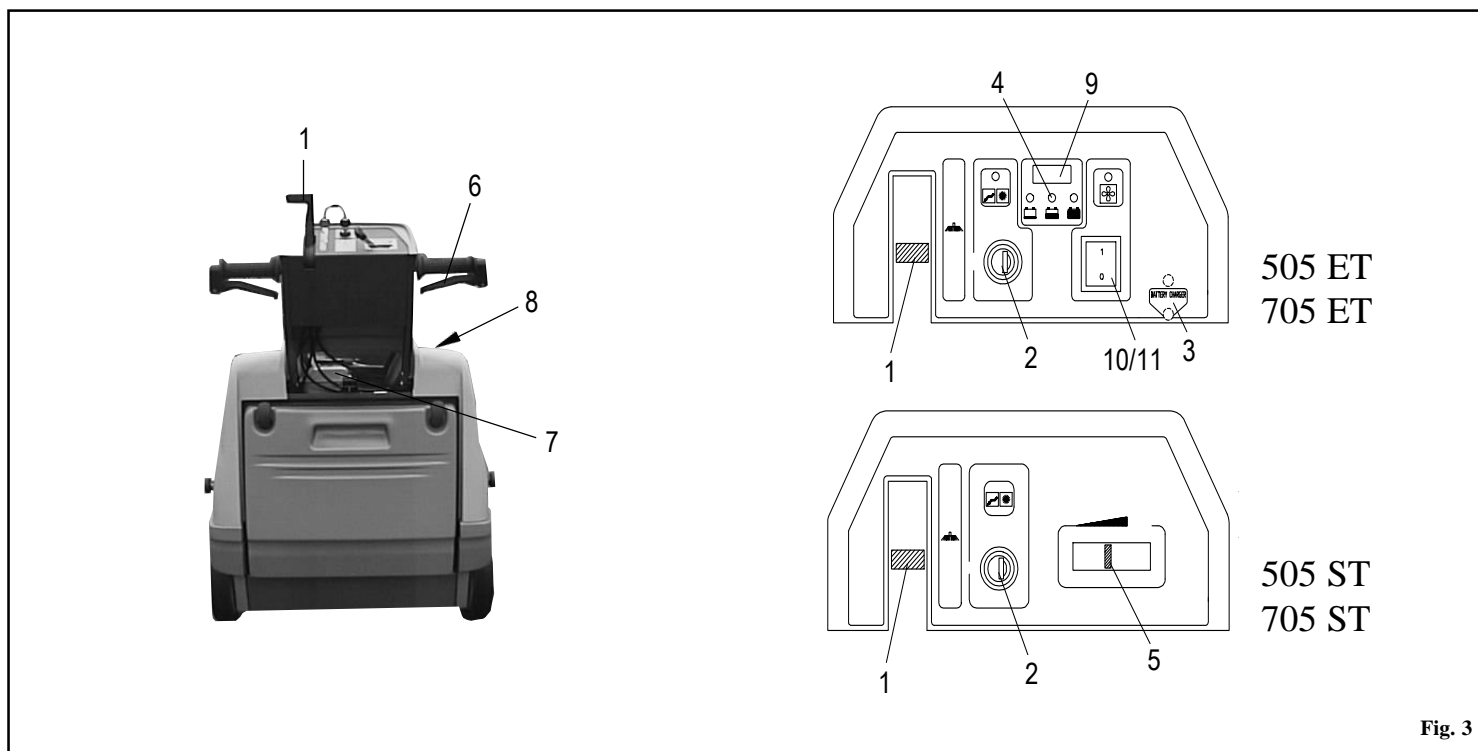

Fig. 3
- Switch the brush lift lever **pos. 1 Fig. 3**, to **OFF**.
you will not be able to operate the key **pos. 2 Fig. 3** on the dashboard. For more detailed information on the engine consult the relevant manual.
- Make sure the side brush **pos. 1 Fig. 3** is **OFF**.
- Turn the switch **pos. 2 Fig. 3 ON**. Wait 10 seconds before the machine sets off.
- Before the machine sets working, check the indicator **pos. 4 Fig. 3**, to assess whether the battery is fully charged. If it is not, proceed to recharge it.
- Pull the traction lever **pos. 6 Fig. 3**, to start cleaning.
If necessary, operate lever **pos. 1 Fig. 3**, by turning it **ON**, to start the side brush. If you have been using the side brush, at the end of your work remember to turn it **OFF**. Switch off the machine and remove the key from the control panel.
- Make sure the side brush **pos. 1 Fig. 3**, is **OFF**.
- Switch accelerator lever **pos. 5 Fig. 3**, to **START**.
- Place the key **pos. 2 Fig. 3** on **ON** position.
- Act on the accelerator **pos. 5 Fig. 3**, to reach the required speed.
- At the end of your work, if you have been using the side brush **pos. 1 Fig. 3** turn it **OFF**. Turn the accelerator lever to **START** and turn off the machine with the key **pos. 2 Fig. 3**. Close up fuel tap **pos. 3 Fig. 4**.
- Plug in a battery charger **pos. 3 Fig 3** bearing up to **12V 10A**.
The life of the battery will depend on its routine maintenance and on its discharge level. Do not allow the battery charge to drop below the limit signalled by indicator lights **pos. 4 Fig. 3**. Got to the max. discharge level, the machine stops and need to be re-charge in order to restart working.